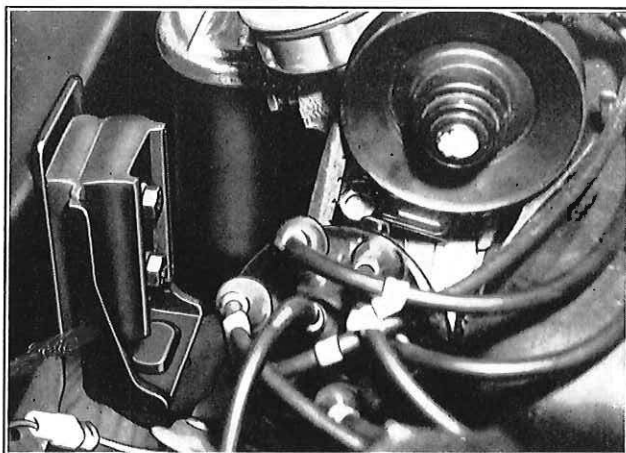

Fig. 17—Engine Rear Mount
- A new "L" shaped engine rear mount (Fig. 17) is used on all except L.D.F.C. models.